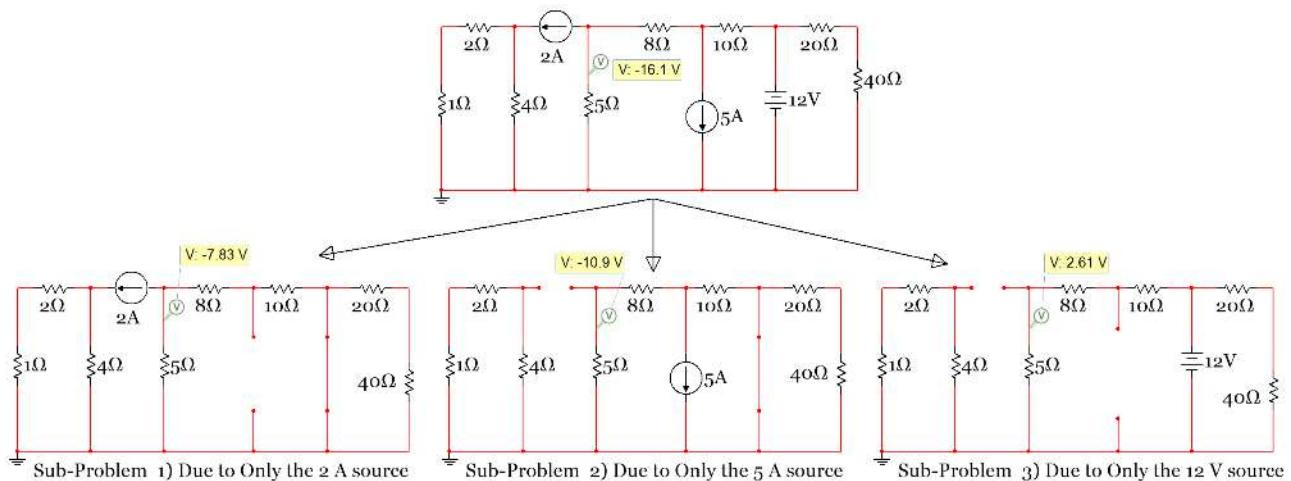
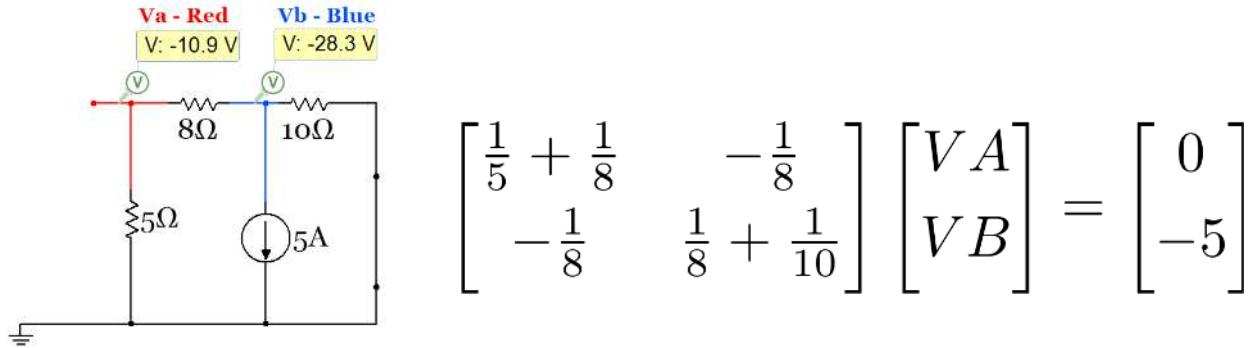

Figure 2.38: Circuit for Example 2.17
Figure 2.40: Circuit and Nodal Matrix equation for sub-problem 2 of Example 2.17
The two tricky situations mentioned above can be seen in the circuit in Figure 2.38. Situation 1 (described above) applies to the sub-problems 1 and 2 circuit in Figure 2.38 where the short circuit is in parallel with a resistor network. The 20Ω and 40Ω resistors are in series and can be added to equal 60Ω . That 60Ω resistor is in parallel with the short circuit (0Ω). As stated previously the end result will be the short circuit remaining and the 20Ω and 40Ω resistors being shorted out (as shown in Figure 2.40).
Situation 2 (described above) applies to the sub-problem 2 and 3 circuit in Figure 2.38 where the open circuit is in series with a resistor network. The network containing the 1Ω , 2Ω , and 4Ω resistors are in series with the open circuit so these resistors will have no effect on the results because no current will
Since there are 3 independent sources in this circuit it requires 3 sub-problems when using the superposition solving technique. First, $V_{5\Omega}$ will be solved Due to Only the 2 A source (bottom-left circuit in Figure 2.38). Notice how the $20\ \Omega$ and $40\ \Omega$ resistors are “shorted out” and the two wires from the $5\ \text{A}$ source are removed. The $1\ \Omega$ and $2\ \Omega$ resistors are in series so they are added together and the $8\ \Omega$ and $10\ \Omega$ resistors are in series so they are also added together. By making these simplifications the number of nodes is reduced from 4 to 2 (not counting the reference node). These are allowable simplifications since the only voltage we are solving for is the voltage across the $5\ \Omega$ resistor and it is not involved in the simplification.
Next, $V_{5\Omega}$ will be solved Due to Only the 5 A source (bottom-middle circuit in Figure 2.38). The $20\ \Omega$ and $40\ \Omega$ resistors are removed due to “situation 1” described previously and the network containing the $1\ \Omega$, $2\ \Omega$, and $4\ \Omega$ resistors are removed from the circuit due to “situation 2” described previously. After redrawing the circuit it is also a Nodal Matrix problem with a 2×2 A matrix as shown below.
Solving the Nodal Matrix equation gives $V_A = -10.87$ V and $V_B = -28.26$ V (which matches the Multisim voltage probe values shown in Figure 2.40). $V_{5\Omega_2} = V_A = \underline{-10.87}$ V
Finally, $V_{5\Omega}$ will be solved Due to Only the 12 V source (bottom-right circuit in Figure 2.38). Again, the network containing the $1\ \Omega$, $2\ \Omega$, and $4\ \Omega$ resistors are removed from the circuit due to “situation 2” described previously. After redrawing the circuit it is shown to be a simple 2 loop Mesh Matrix problem.
Solving the Mesh Matrix equation gives $I1 = -521.74$ mA and $I2 = 200$ mA (which matches the Multisim current probe values shown in Figure 2.40). $V_{5\Omega_3} = -I1 \cdot 5 = \underline{2.6087}$ V
- $V_{5\Omega} = V_{5\Omega_1} + V_{5\Omega_2} + V_{5\Omega_3} = -7.826 \text{ V} - 10.87 \text{ V} + 2.6087 \text{ V} = \underline{-16.088 \text{ V}}$ (Matches the value in Figure 2.38)